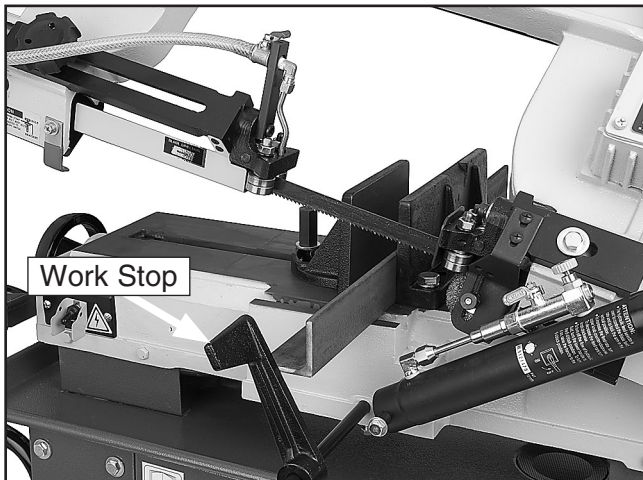

Figure 32. Proper starting position.
- Let the blade reach full speed before engaging the workpiece. Never start a cut with the blade in contact with the workpiece (see **Figure 32**).